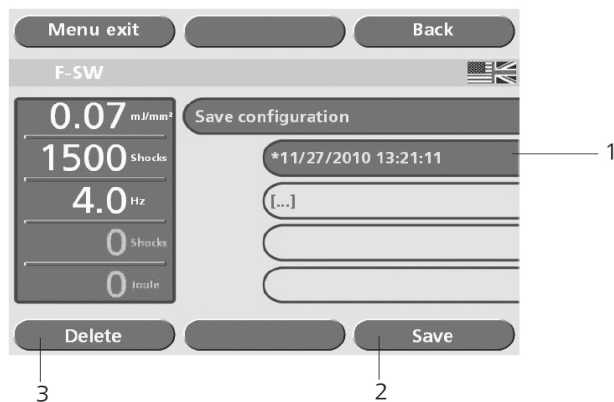

Fig. 5-10 Save configuration sub-menu
- Touch the **SAVE** key to save the current setting (see picture below **FIG. 5-10 SAVE CONFIGURATION SUB-MENU/1**).
- Delete a stored configuration that is no longer required using the **DELETE** button (**FIG. 5-10 SAVE CONFIGURATION SUB-MENU/3**).